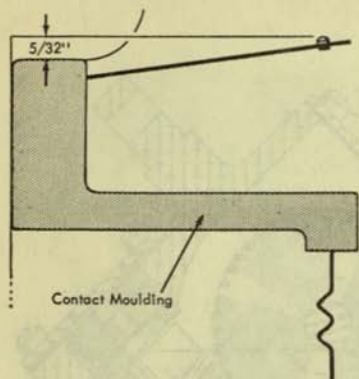

Figure 13. Pin Sensing Adjustment
1. The contact pressure on each point should be 20 to 30 grams. Before installing a new contact moulding, the contact straps must be pre-formed for this tension as shown in Figure 13. A cylinder, similar to a Type 31 duplicating contact roll, is helpful in forming the contacts evenly.